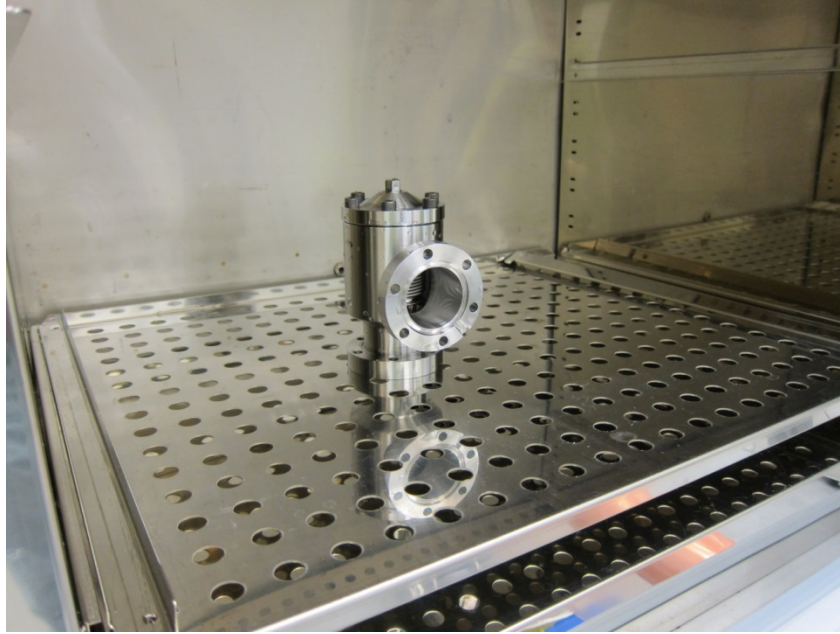

Figure 4
- After rinsing is complete, put angle valve in an oven with actuator nut facing up, as shown in Figure 4. Dry overnight (~15 hours) at 100°C in nitrogen atmosphere.